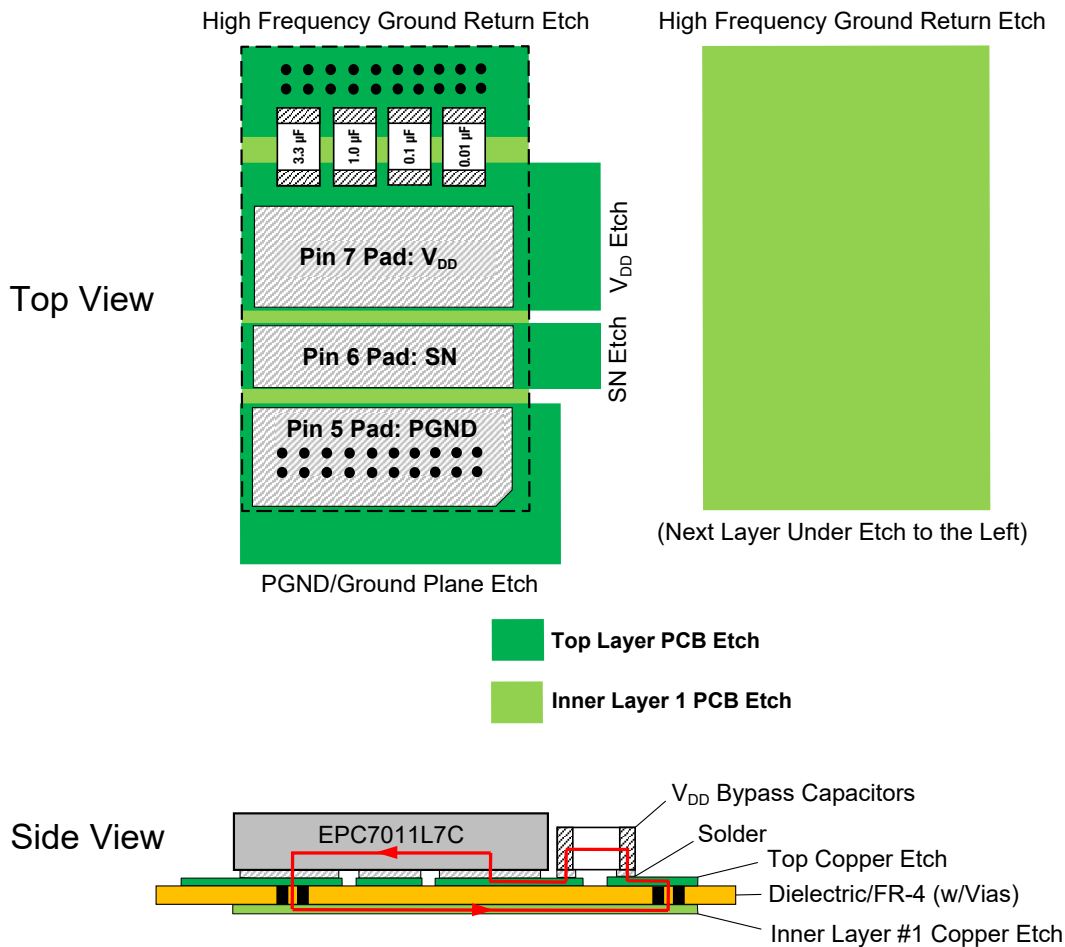

Figure 4. Recommended Optimum V_{DD} -to-PGND Power Supply Bypass Capacitor Layout (Not to Scale)
Because of the extremely high rate-of change of voltage seen at the SN output it is recommended that a minimum of one (1) 3.3 μF microfarad ceramic capacitors, one (1) 1.0 microfarad ceramic capacitor, one (1) 0.1 microfarad ceramic capacitor and one (1) 0.01 microfarad ceramic capacitor, all with sufficient voltage de-rating, be connected from V_{DD} to PGND. All four of these capacitors should be low ESR types, if possible. It is strongly recommended that these capacitors have the smallest possible case sizes possible such that they inscribe the smallest possible loop area between V_{DD} and PGND so as to minimize the inductance related to this loop area. Also, to reduce the inductive loop between V_{DD} and PGND is strongly recommended that an induction loop cancellation layout of the high frequency power supply capacitors be employed. Figure 4 illustrates the recommended optimum layout and placement for the V_{DD} -PGND high-frequency bypass capacitors.
It should be noted that in Figure 4 that the light green copper etch area on the PCB's inner layer #1 is positioned directly beneath the copper etch clad on the top layer, as indicated by the dashed line.
The requirements of each PCB implementation of the EPC7011L7C may not allow the recommended optimum layout shown in Figure 4 to be implemented, but care should be taken to keep the recommended layout as physically and mechanically close to it as possible.